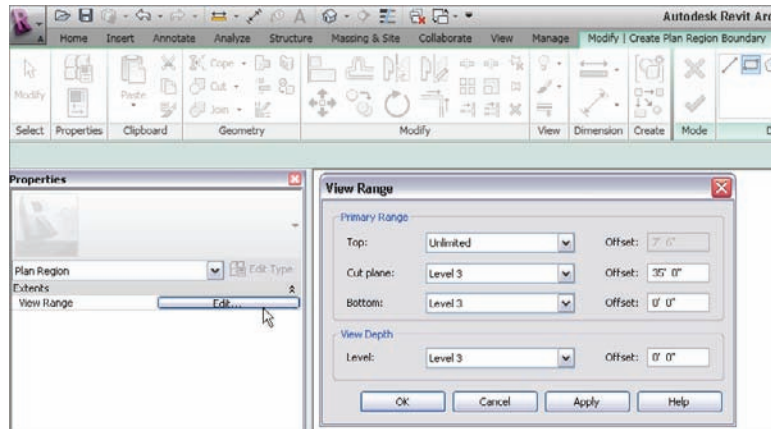

FIGURE 7.36 Setting the view range for the plan region
5. In the Properties dialog box, click the Edit button in the View Range row, as shown in Figure 7.36.
6. In the View Range dialog box, set Top to Unlimited and Level 3 Cut Plane Offset to 35' 0" (11500mm), as shown in Figure 7.36.